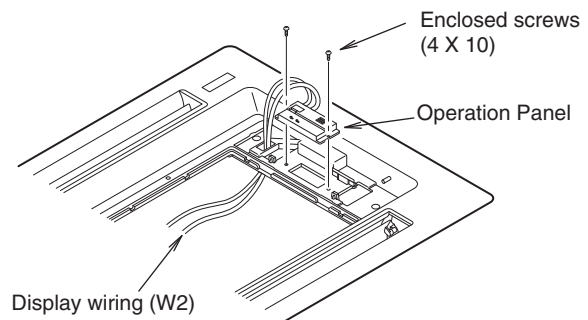

Fig. 8-16
- (2) Fasten the operation panel to the location in the diagram below with the 2 enclosed screws (4 X 10). (Fig. 8-16)
- (3) Pass the wiring for the display (W2, 6P white connector) through the back of the panel.